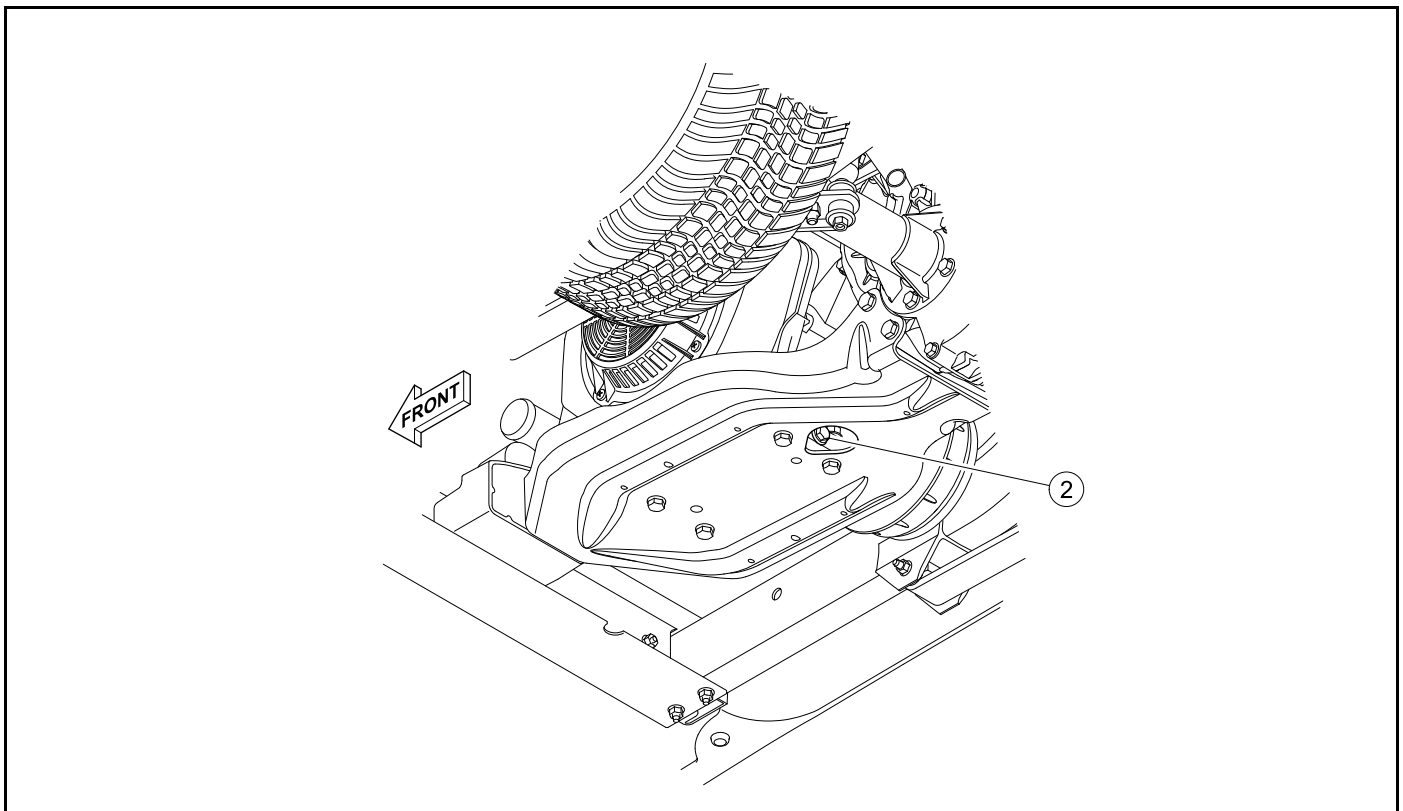

Figure 10-10 Oil Drain Plug
2. Clean the area around the oil drain plug (2) (Figure 10-10, Page 10-15).